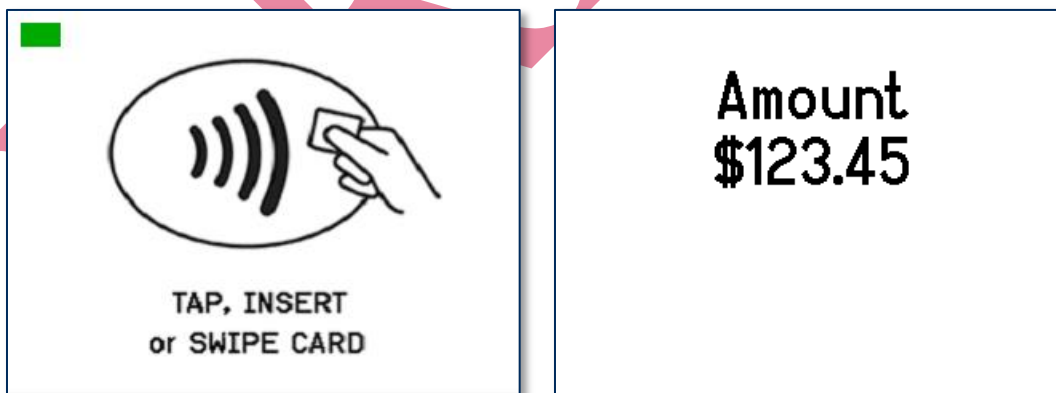

Figure 6-20 - Example Contactless Transaction Screens
- 1) Wait for the display to toggle between the transaction amount and an action prompt (see **Figure 6-20** for examples). The device also shows a solid green rectangle at the upper left corner of the display indicating it is ready for a tap.